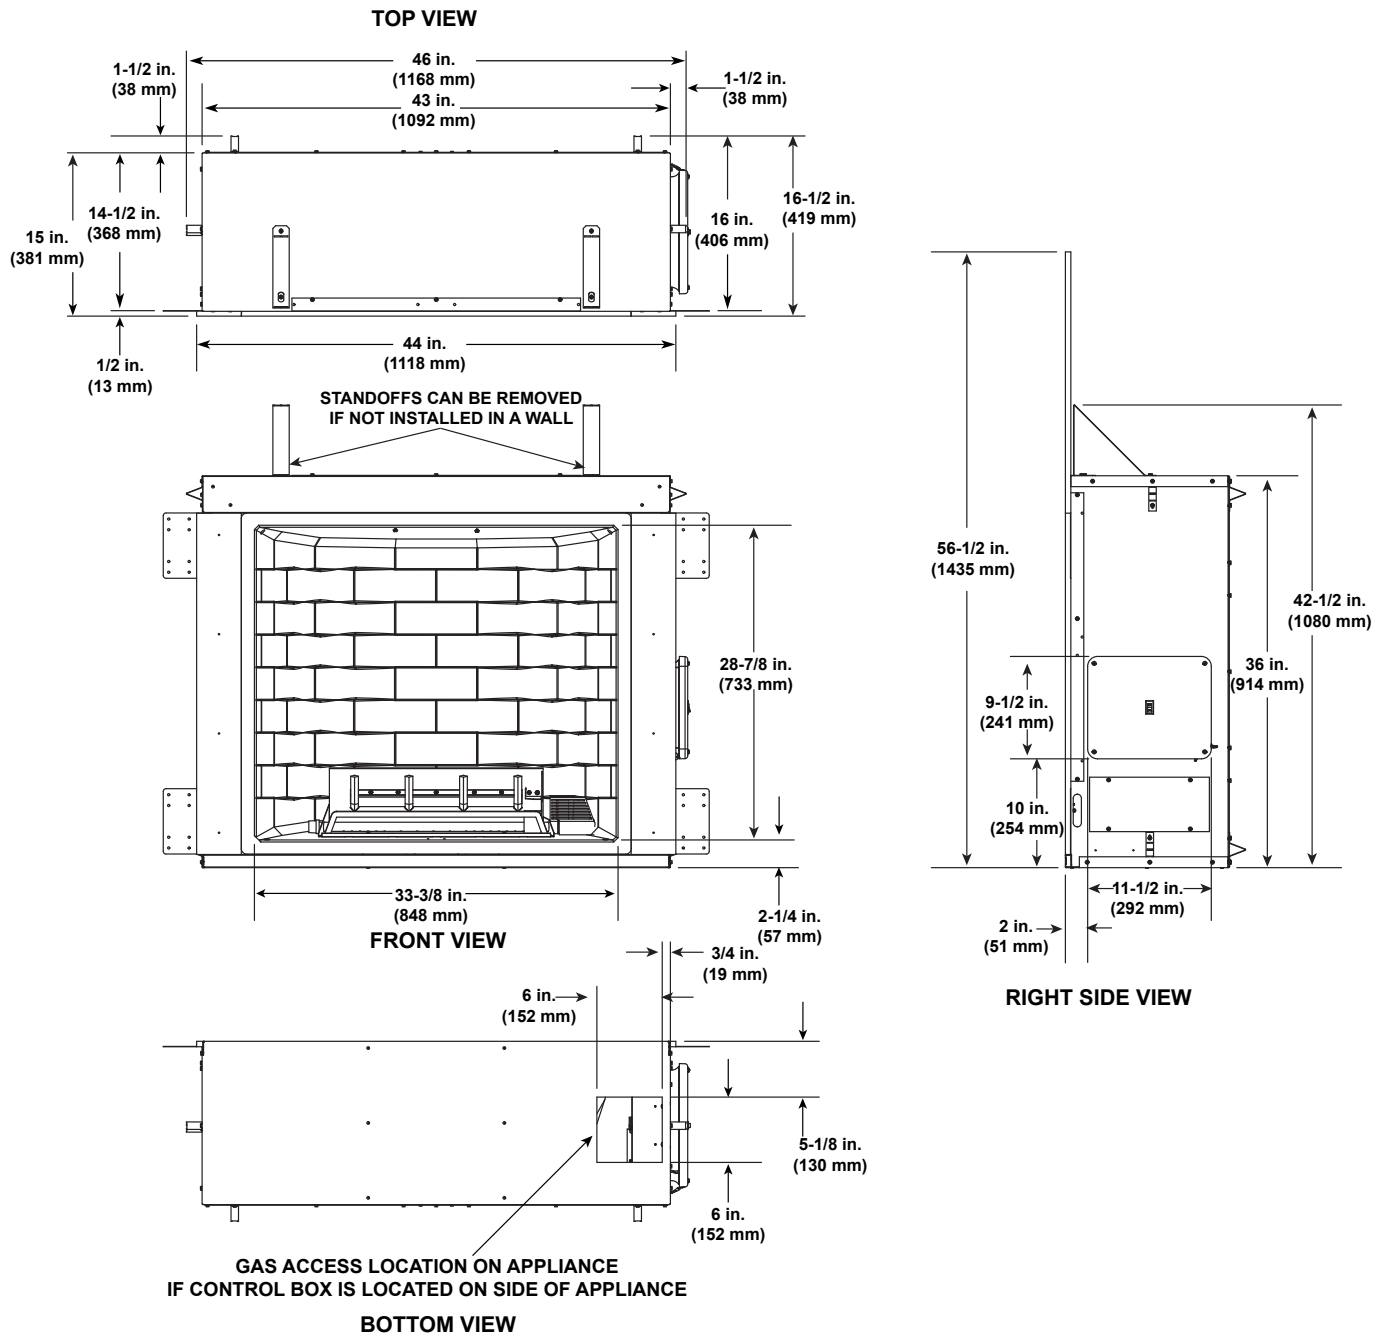
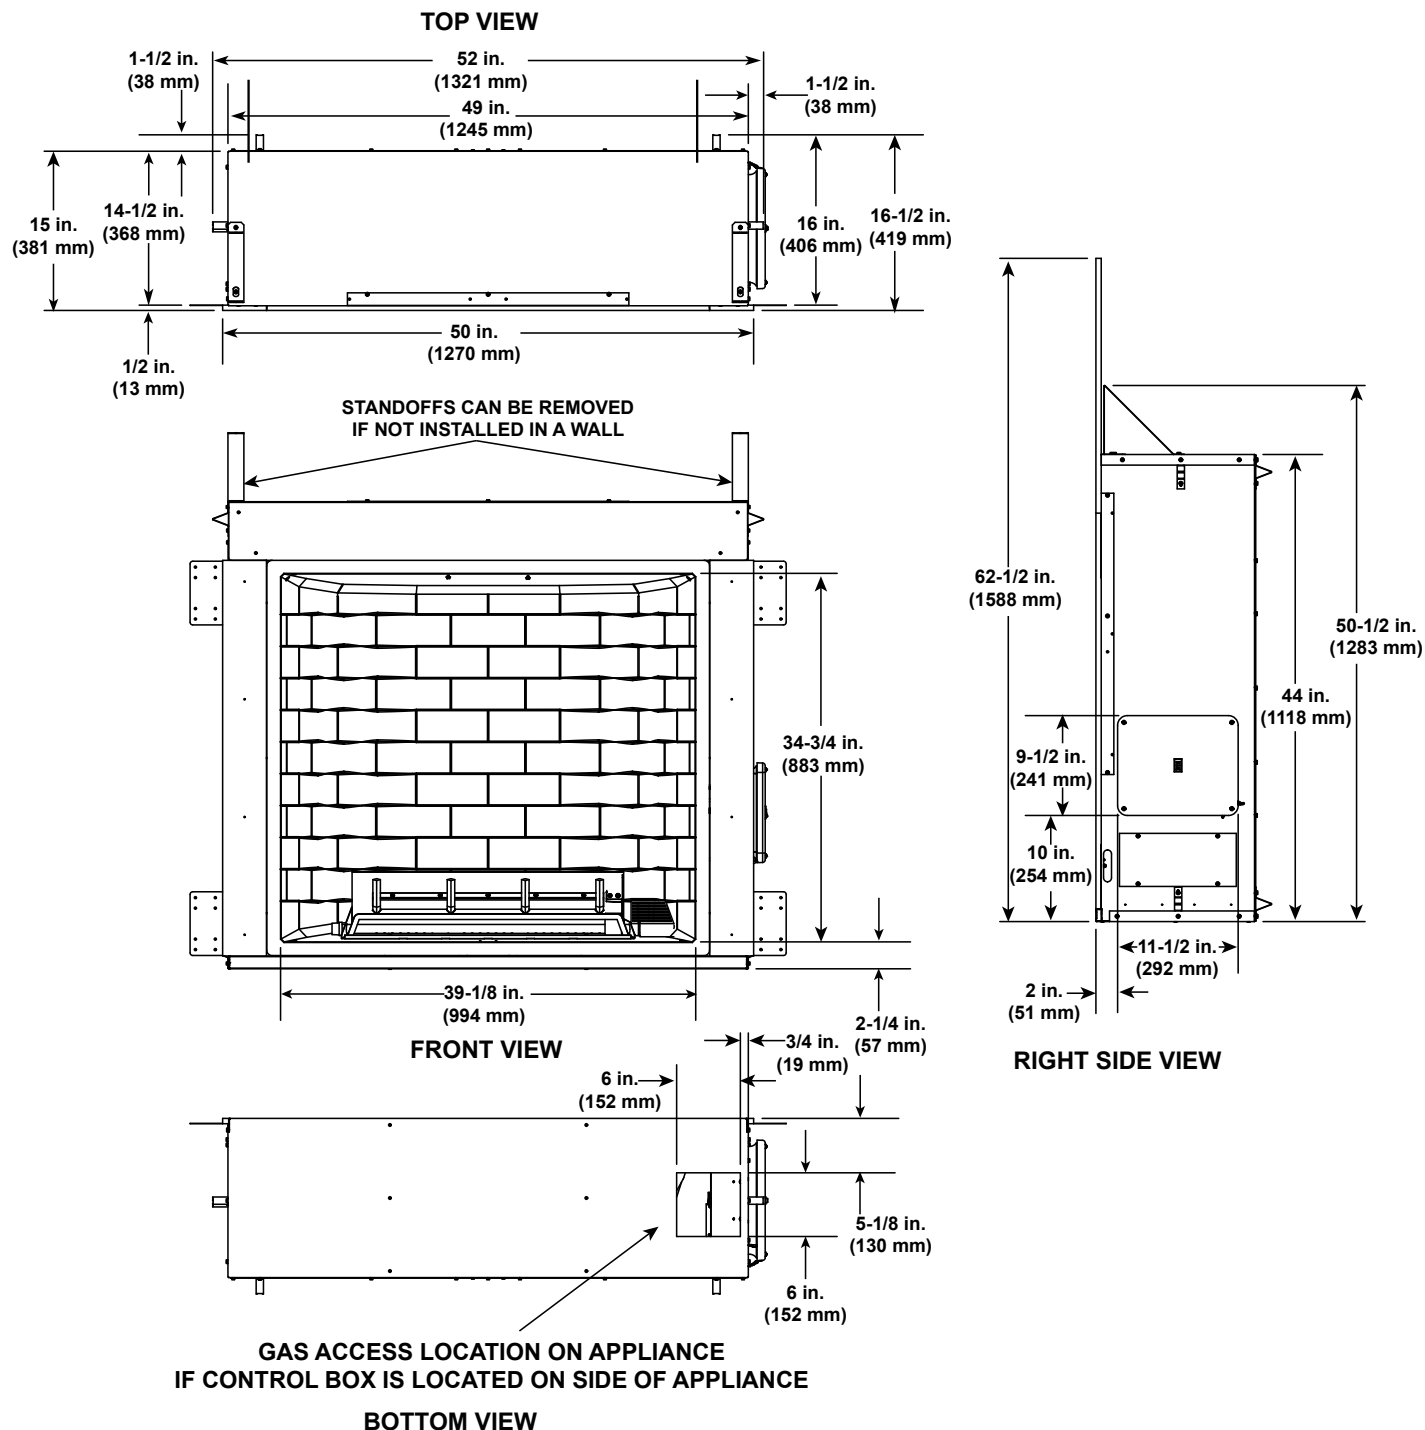

Figure 3.1 Appliance Dimensions - CARODG36I-C
Figure 3.2 Appliance Dimensions - CARODG42I-C
- Flash the perimeter of the appliance, corners and the appliance face in a manner consistent with regional practices as required to prevent water penetration around the appliance or manage water that may penetrate the appliance. See Section 3.D and Figure 3.1 (CARODG36I-C) and Figure 3.2 (CARODG42I-C) for more information regarding wall and enclosure construction.
- See Section 3.F and Figures 3.1 and 3.2 for more information regarding wall and enclosure construction required to prevent moisture penetration into the structure. The appliance will shed moderate amounts of water but is not waterproof.